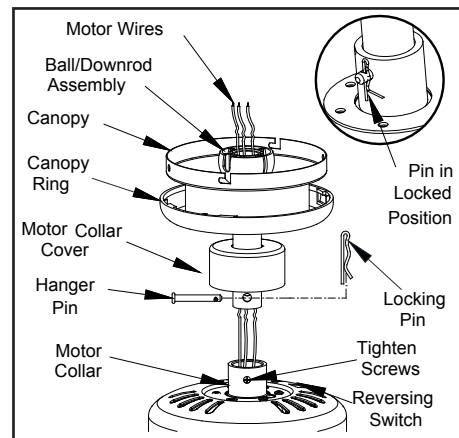

Figure 7
4. Route the wires exiting the top of the fan motor through the decorative motor collar cover then the canopy ring. Make sure the slot openings are on top. Route the wires through the canopy and then through the ball/downrod assembly. (Figure 7)
6. Align the holes at the bottom of the downrod with the holes in the collar on top of the motor housing. (Figure 7) Carefully insert the hanger pin through the holes in the collar and downrod. Be careful not to jam the hanger pin against the wiring inside the downrod. Insert the locking pin through the hole near the end of the hanger pin until it snaps into its locked position, as noted in the circle inset of Figure 7.
The fan shipped from the factory with the reversing switch positioned to circulate air downward. If airflow is desired in the opposite direction, turn your fan off and wait for the blades to stop turning, then slide the reversing switch (located at the top of the motor housing, refer to figure 7 on page 4) to opposite position, and turn fan on again. The fan blades will turn in the opposite direction and reverse airflow.